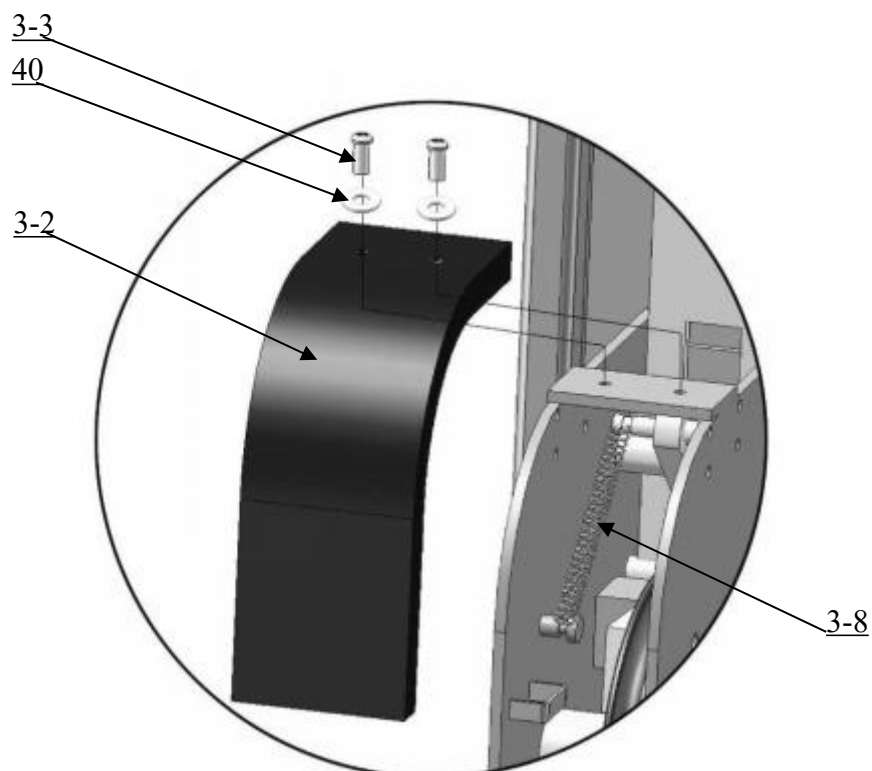

Fig. 44
O. Install spring and safety cover of cross beam (See Fig. 44).